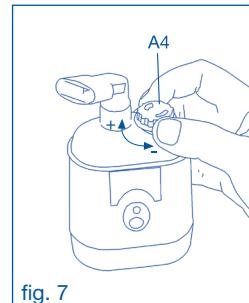

fig. 7
7. Regulate the supply flow by means of the special knob (A4); turn it clockwise (position +) to treat the upper airways, or anticlockwise (position -) for the lower airways (fig. 7).